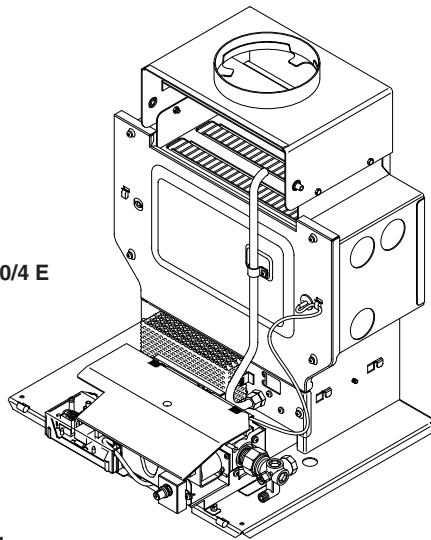

Fig. 1
3. These instructions relate to the central heating boiler section of the appliance (Fig. 1).